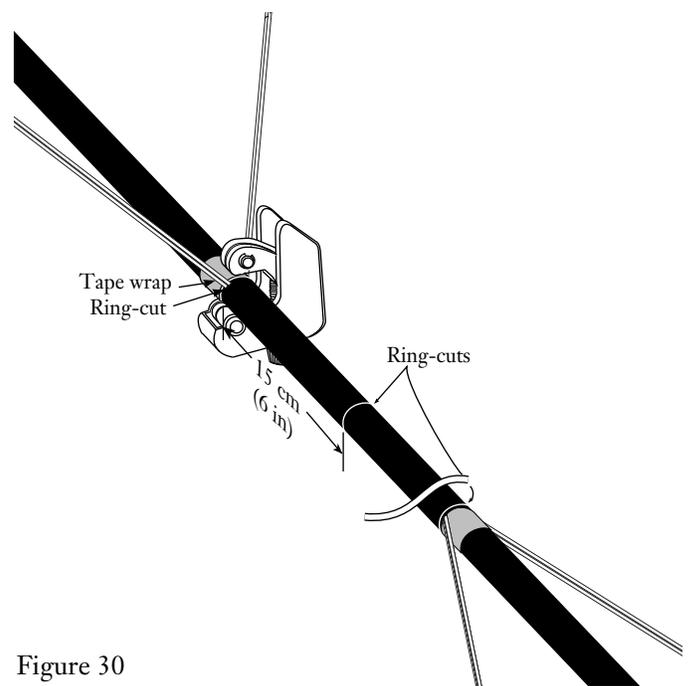

Figure 30
7.8 Make an additional ring cut at a point approximately 15 cm (6 in.) from either tape mark. Use the hook blade, a utility knife with a straight blade, or tube cutter for the ring cuts (Figure 30).